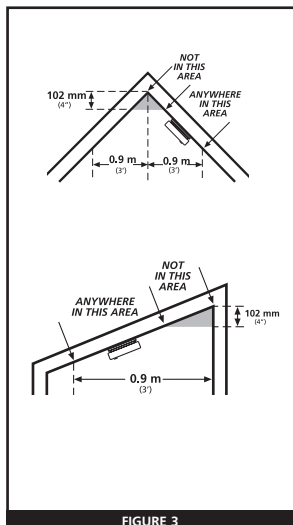
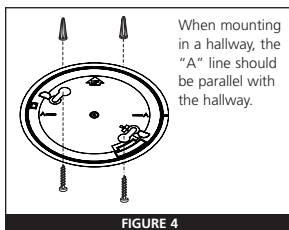

FIGURE 3
FIGURE 4
- Install Smoke Alarms on sloped, peaked or cathedral ceilings at or within 0.9 m (3 ft) of the highest point (measured horizontally). Smoke alarms in rooms with ceiling slopes greater than .3 m in 2.4 m (1 foot in 8 feet) horizontally shall be located on the high side of the room. A row of detectors shall be spaced and located within 0.9 m (3 ft) of the peak of the ceiling measured horizontally (see Figure 3).
- After selecting the proper smoke alarm location as described in Section 1, attach the mounting bracket to the ceiling as shown in Figure 3. For wall mounting see Figure 4. Place the mounting plate on the wall; be sure the "A" line is horizontal (parallel to the floor). Use the screws and cavity fixings provided to secure the mounting bracket (use 3/16" drill bit for cavity fixings.).